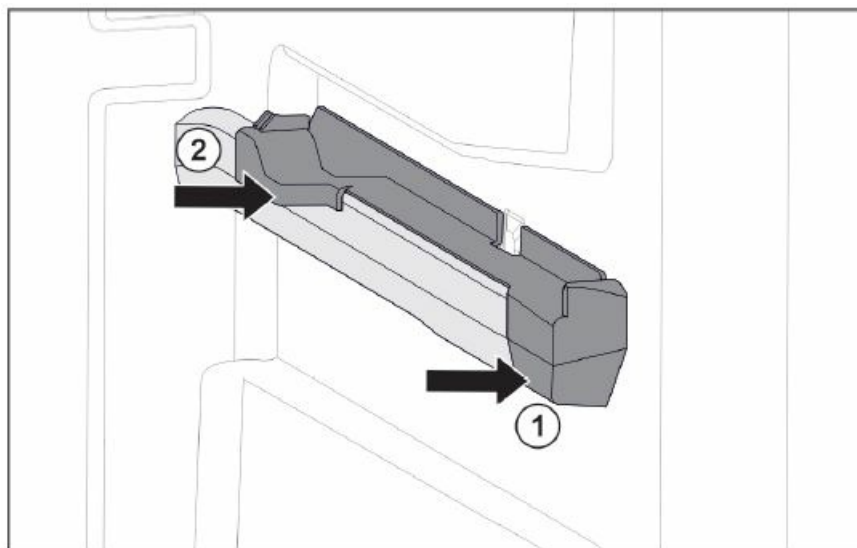

Fig. 30 Attachment on the right molded rib
- Position attachment on molded rib at the front. Fig. 30 (1)
- Press on attachment at the back. Fig. 30 (2)